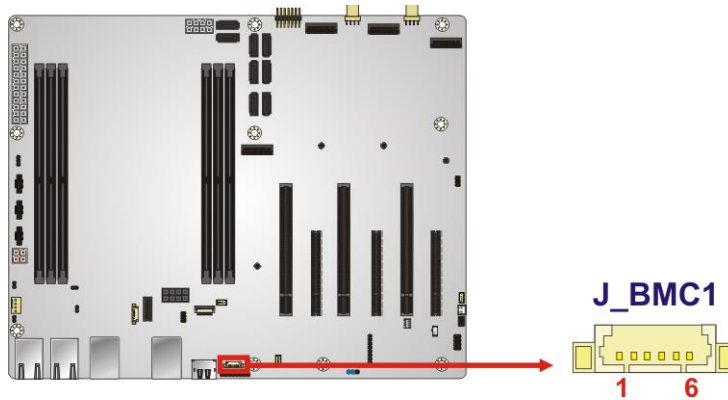

Figure 3-24: SPI BMC Flash Connector Location
- CN Location:** See **Figure 3-24**